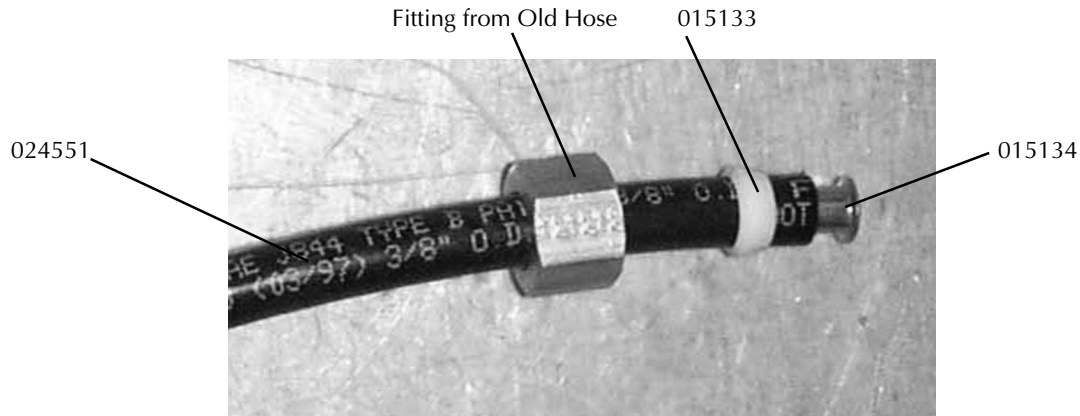

Figure 5 Tubing, Insert, Sleeve and Fitting Assembly
1. Assemble the 015134 insert, and 015133 sleeve from the kit with the fittings saved from the old hoses into both ends of the three 024551 kit hoses, as shown in Figure 5 below (the kit includes an extra sleeve and insert). Note the orientation of the 015133 sleeve.